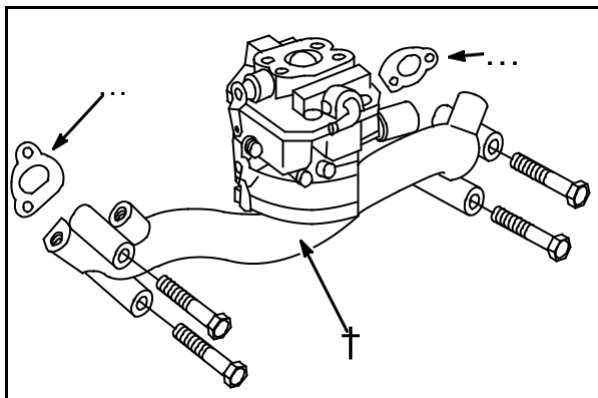

Fig. 30
Install new gaskets (5) and carburetor/manifold assembly (6) to cylinder heads, **Fig. 30**. Torque screws to **140 in. lbs. (16 Nm)**.